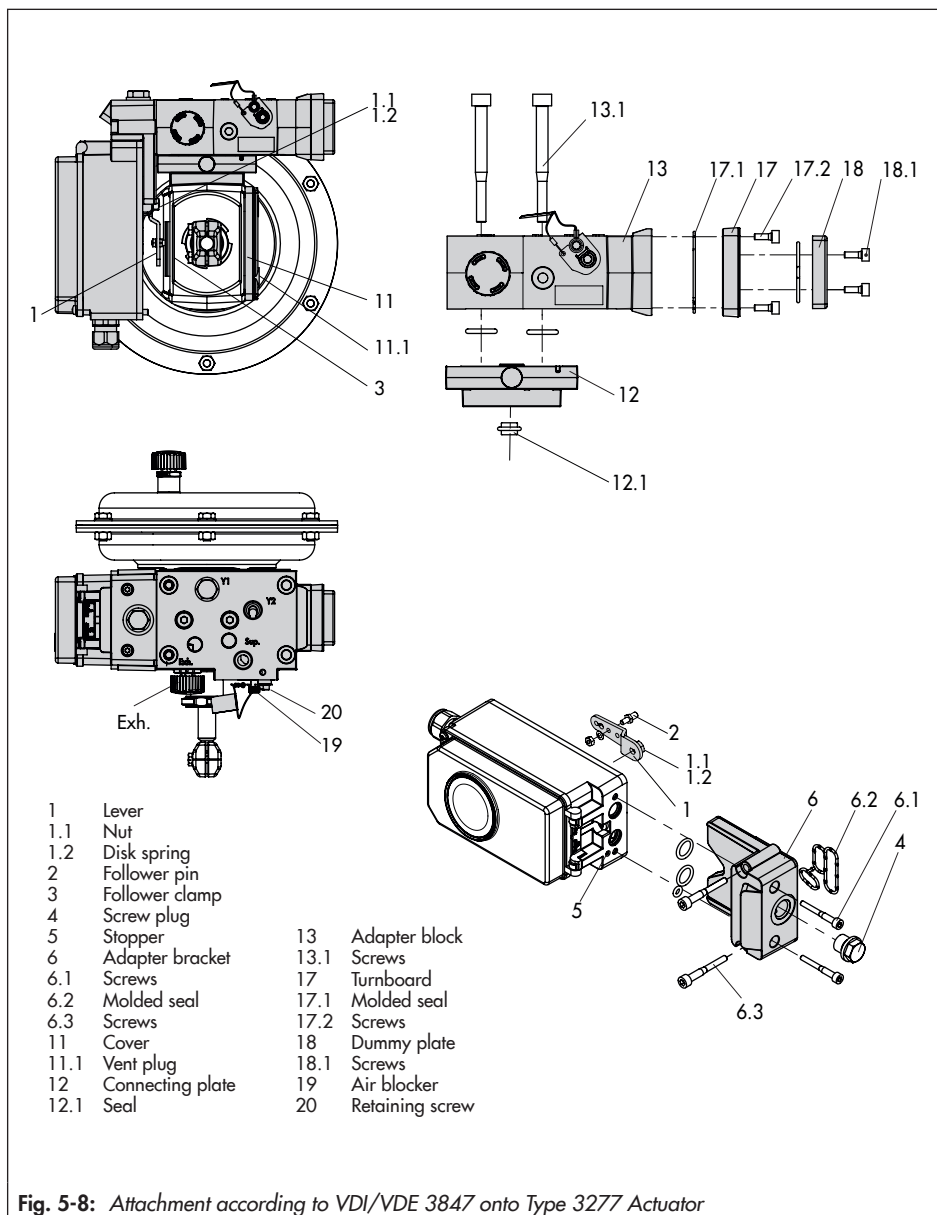

Fig. 5-8: Attachment according to VDI/VDE 3847 onto Type 3277 Actuator
Attachment to Type 3277 Actuator (see Fig. 5-8)
Mount the positioner on the yoke as shown in Fig. 5-8. The signal pressure is routed to the actuator over the connecting plate (12), for actuators with fail-safe action "actuator stem extends" internally through a bore in the valve yoke and for "actuator stem retracts" through external piping.